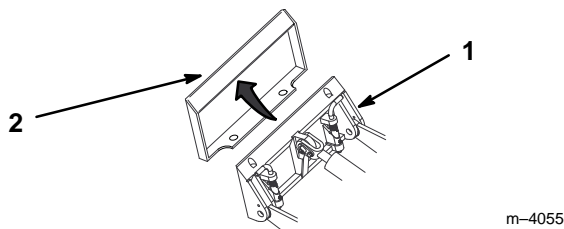

Figure 13
5. Position mount plate into the upper lip of the attachment receiver plate (Fig. 13).